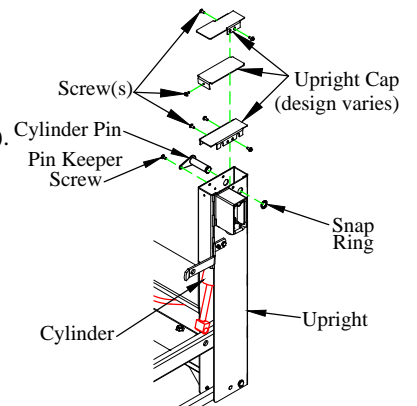

Figure 4: Upright cap and cylinder pin.
- 3. REMOVE** the upright cap screw(s) from the uprights (Figure 4).
- 4. REMOVE** the upright cap (Figure 4). Upright cap design may vary.
- 5. REMOVE** the cylinder pin (Figure 4).
8. **INSTALL** the cylinder pin (Figure 4).
13. **INSTALL** the upright cap and 1/4-20 x 1/2" screw(s) (Figure 4).